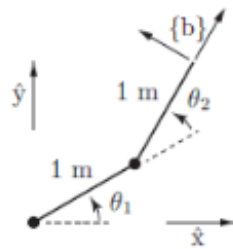

Figure 5
5) Apply the body Jacobian Newton Raphson inverse kinematics algorithm to the 2R robot in Figure 5. Each link is 1 m in length, and we would like to find the joint angles that (8)